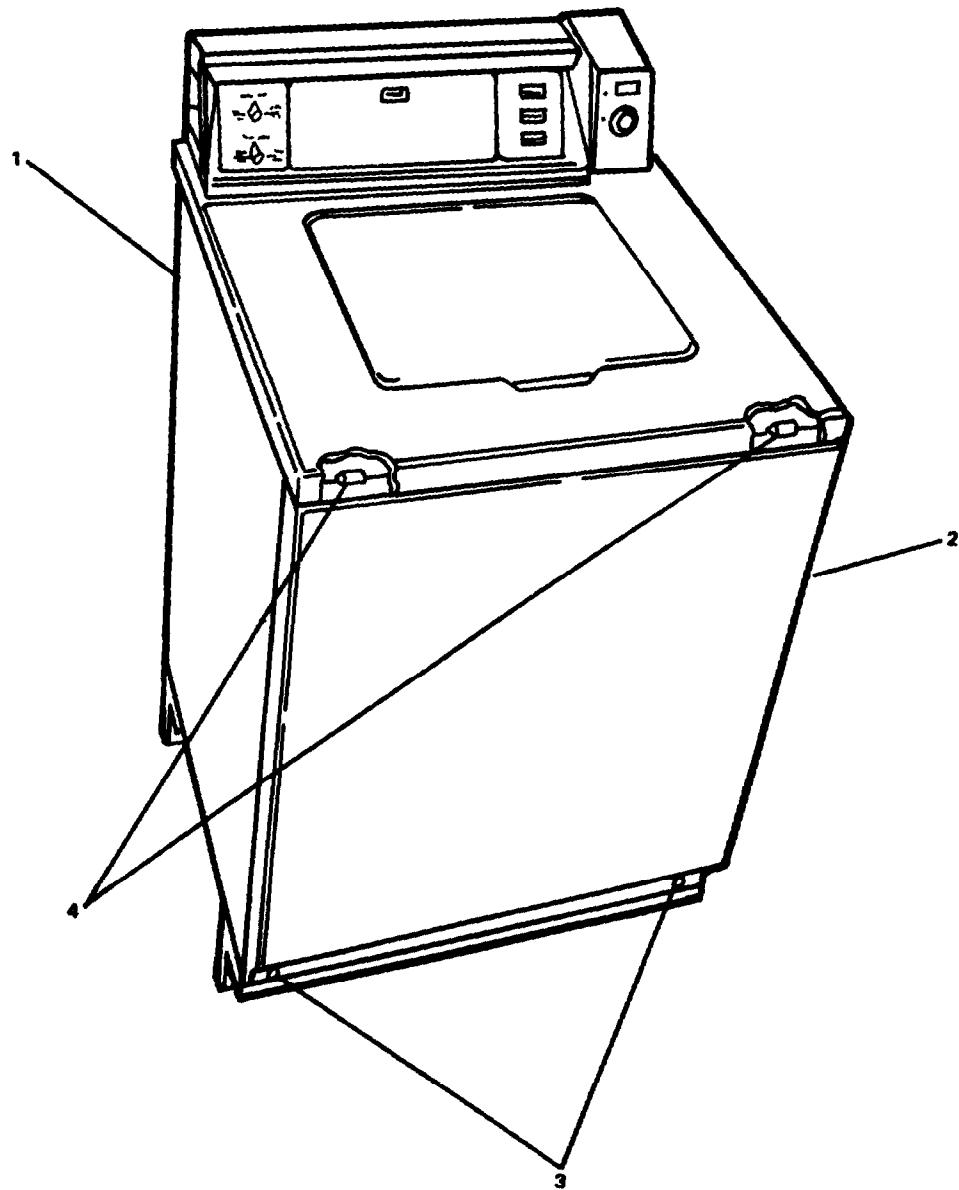

FIGURE 2-67. Washer Machine Front Panel Removal.
- a. Remove washer machine (1, FIGURE 2-67) front panel (2) as follows:
- (1) Remove machine screws (3).
- (2) Pull bottom of front panel (2) away from washer until hold-down clips (4) disengage from slots in cabinet top.
- (3) Remove front panel.